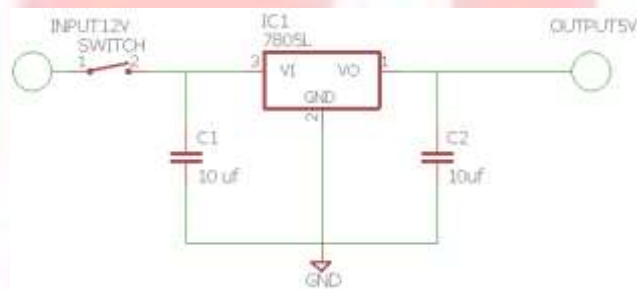

Figure 1.1: Circuit diagram for power supply
1. First study the circuit diagram as shown in Figure 1.1.